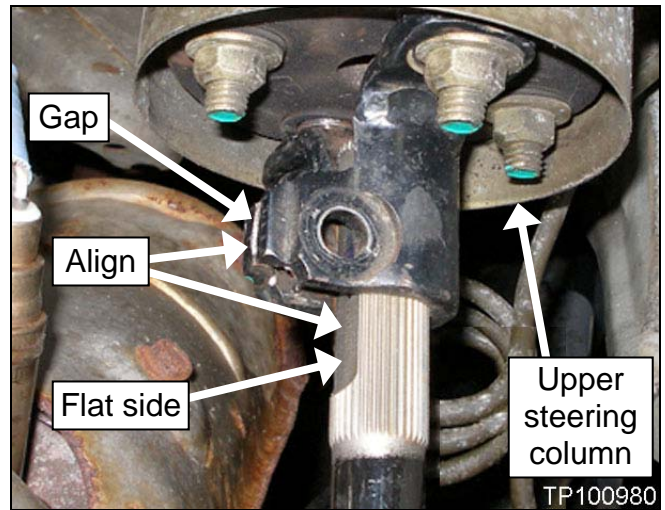

Figure 6
1. Slide the new lower shaft into the pinch clamp on the steering column (see Figure 6).
- Make sure to align the pinch clamp's gap with the flat side of the shaft (see Figure 6).